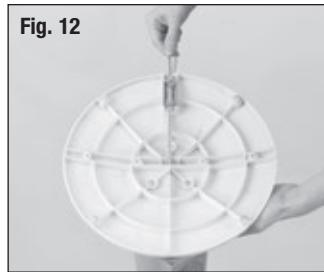

Fig. 12
- Place the power cord through the cut out on the bottom of the base. Gently pull any slack out of the power cord and place the cord securely in the power cord holding bracket (Fig. 12).